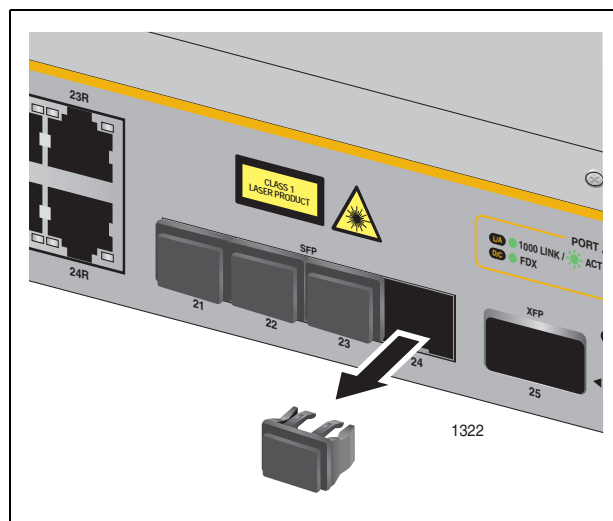

Figure 39. Removing a Dust Plug from an SFP Slot
1. Remove the dust plug from a transceiver slot on the switch, as shown in Figure 39.